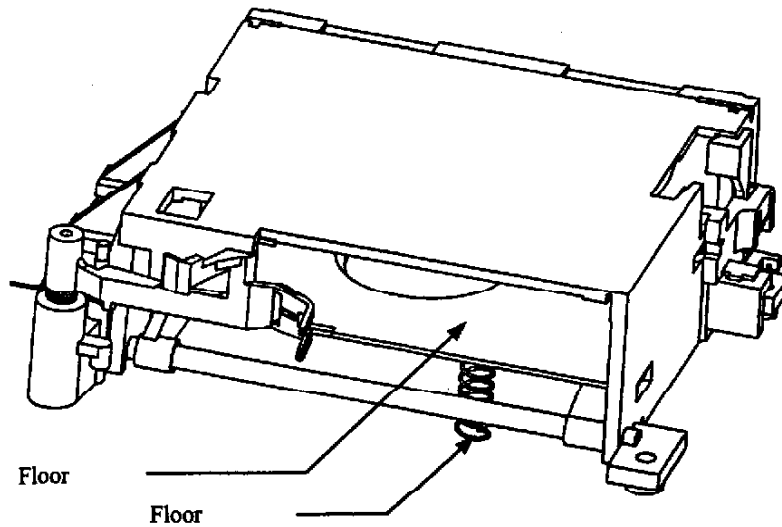

Figure 2 Location of Floor Spring
3. Check for the proper floor spring. The floor spring is visible under the floor plate of the drive when the cartridge is removed. It is located at the rear of the receiver and in front of the first roller. See Figure 2.